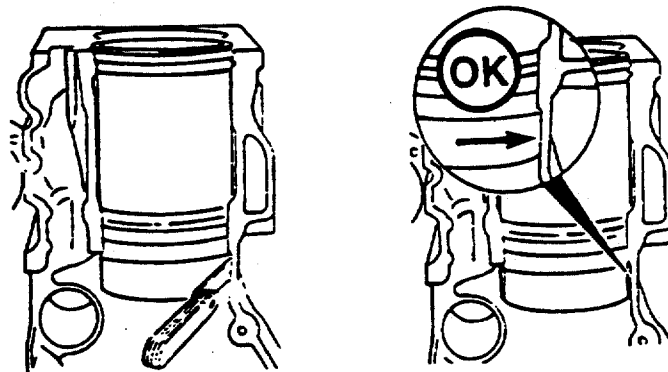

FIGURE 4-61. Liner and Lower Liner Bore Clearance.
- (g) Use a feeler gauge to measure the clearance between the liner and the lower liner bore (FIGURE 4-61) . The clearance must be from 0.002 inch (0.05 mm) to 0.006 inch (0.15 mm).